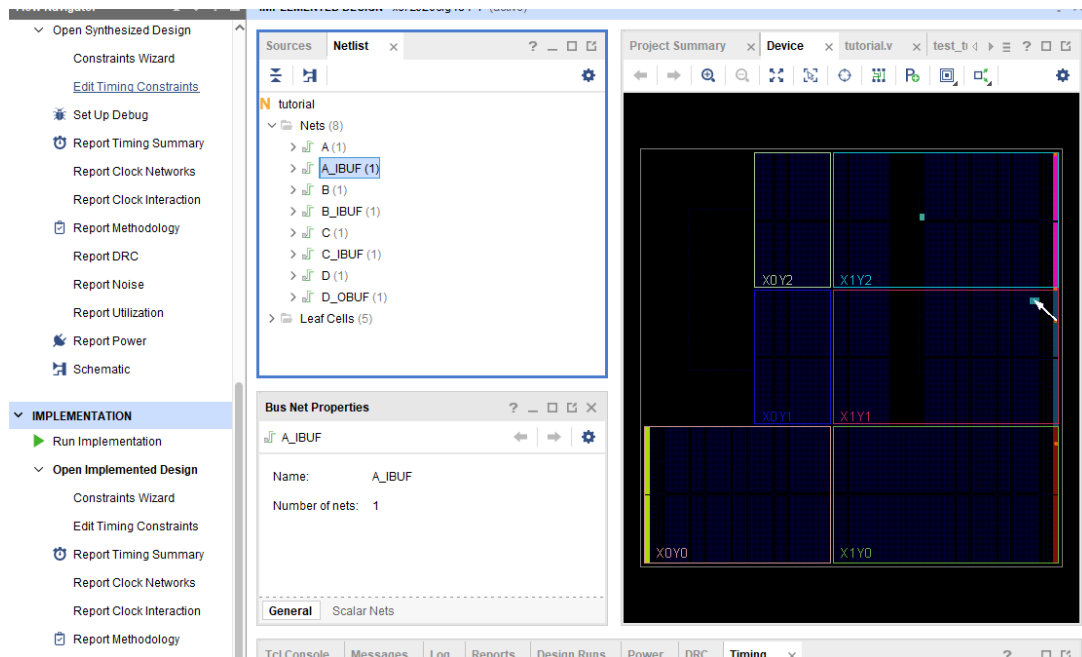
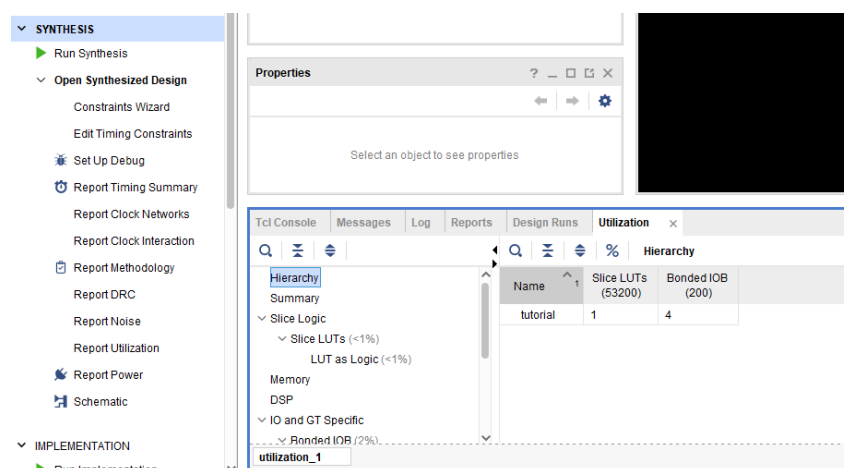

Figure 18: Net List Pane visualized
Figure 19: Schematic View 2
Next, the design is implemented by clicking on "Run Implementation". Shown in figure 18, is the Netlist pane with A\_IBUF(1) selected, and the net displayed in the X1Y1 clock region in the Device view tab. Shown in figure 19, is the utilization. As the design is combinatorial no registers are used.